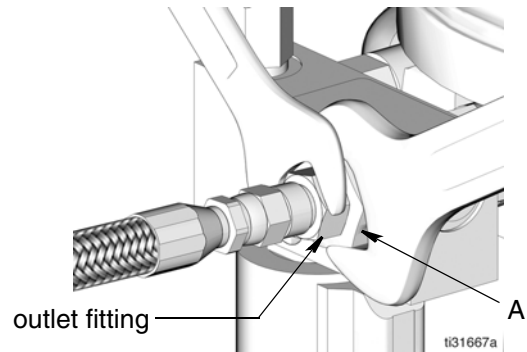

FIG. 24
1. Loosen the pump outlet fitting (FIG. 24).